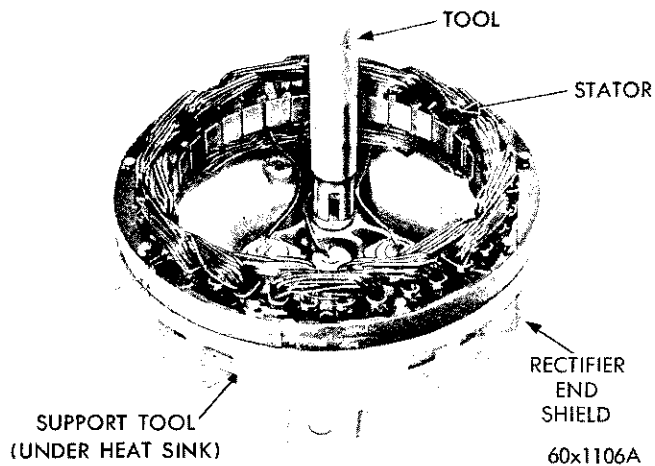
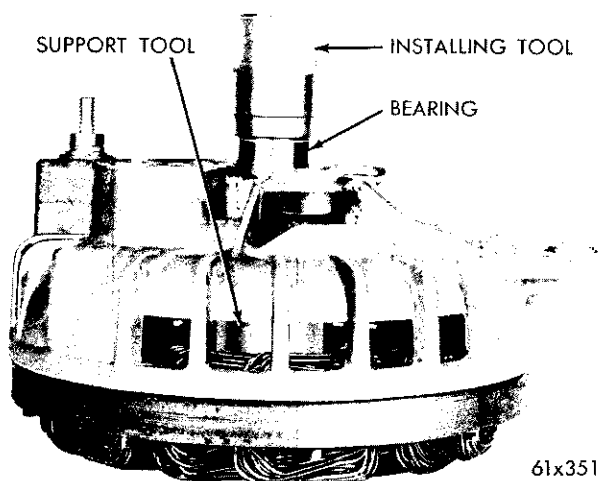

Fig. 42—Installing a Rectifier
Fig. 43—Installing Rectifier End Shield Bearing
(2) Check the rectifier identification to make sure the correct rectifier is being installed. Refer to the Parts List for rectifier identification.
(3) Start the new rectifier into the casting squarely and press the rectifier into the casting with Tool C-3772 (Fig. 42).
(4) Crimp the new rectifier wire to the wires disconnected at removal.
(5) Support the end shield on Tool SP-3383 so that the notch in support tool will clear the raised section of the heat sink and press the bearing into position with Tool SP-3381 (Fig. 43).
(6) Insert the drive end bearing in the drive end